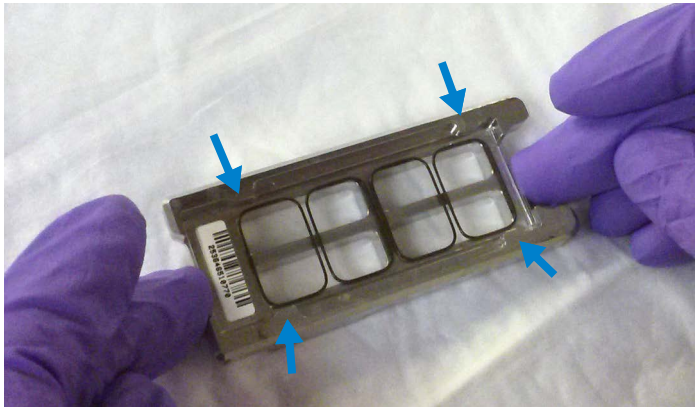

Figure 12 Chamber base with gasket and microarray slide applied, guide posts denoted with arrows
- 2 Use the four chamber base guideposts and rectangular end of the base to position the microarray slide as you lower it to within 3 mm (1/8") above the gasket slide, making sure the microarray slide is not tilted with respect to the gasket slide. Barcode ends of both the gasket slide and the microarray slide must line up at the corners of the chamber base. Once positioned, gently rest the microarray slide on the lower gasket slide. Refer to Figure 12 for proper technique on holding the microarray slide with both hands.